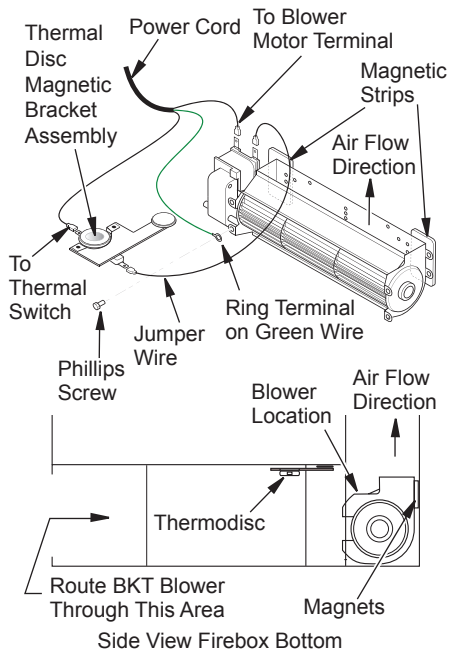

Figure 29 - Blower Model BKT
1. Attach green ground wire from power cord to blower housing using screw provided (see Figure 29). Tighten screws securely with a Phillips screwdriver.
4. tom of the firebox sub-floor. The thermo-disc must be oriented near the fireplace bottom as shown in Figure 29, in order to sense temperature and properly operate. The blower will be held in position against the back wall by the magnets incorporated onto the blower housing (see Figure 29).